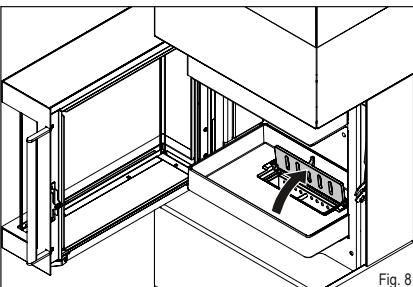

Fig. 8
- ▶ Open the fire grate flap (Fig. 8)